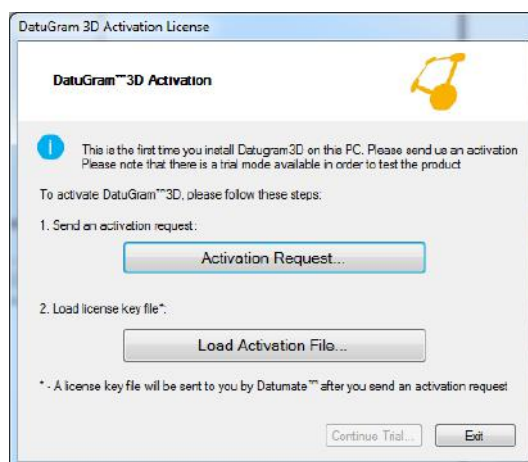

Figure 4: DatuSurvey™ Activation License
6. Upon receiving the V2C, save it and when DatuSurvey™ starts, the “DatuSurvey™ Activation License” window (Figure 4) is displayed again. Click on **Load Activation File**.
8. If you have purchased a Network License, you can manage the number of available concurrent DatuSurvey™ licenses by adding or removing LicIDs in the “Activation License Request” form (Figure 4).